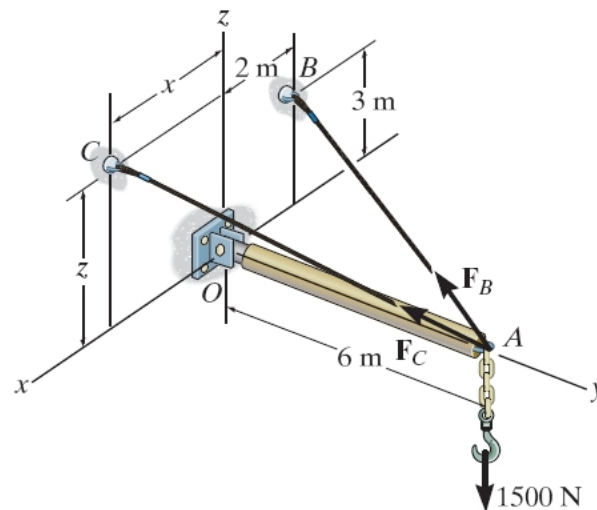

Figure Q3[a]
- Q3. [a] Two cables are used to secure the overhang beam in position and support the 1500 N load at A, as shown in Figure Q3[a]. If the resultant force is directed along the beam from point A towards O, determine the magnitudes of the resultant force and the forces F_B and F_C . Set $x = 3$ m and $z = 2$ m.